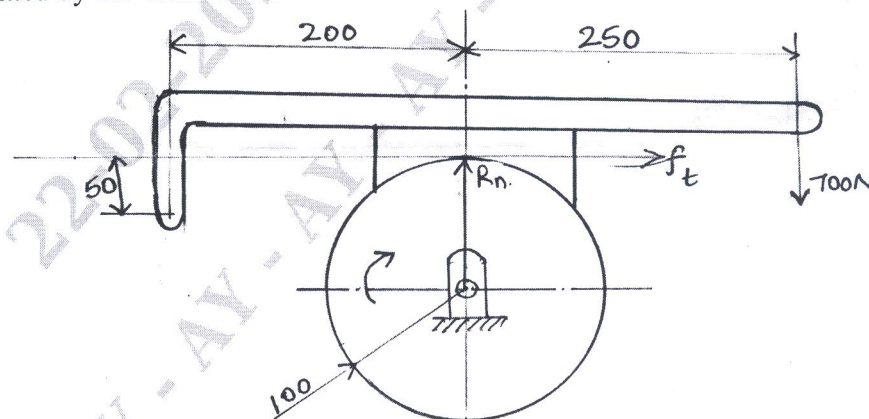

Fig.Q8(c)
c. The diameter of the drum of a single block brake shown in Fig.Q8(c) is 200 mm and the angle of contact is 90° . If the operating force of 700 N is applied at the end of a lever and the coefficient of friction between the drum and the lining is 0.35, determine the torque that may be transmitted by the block brake.